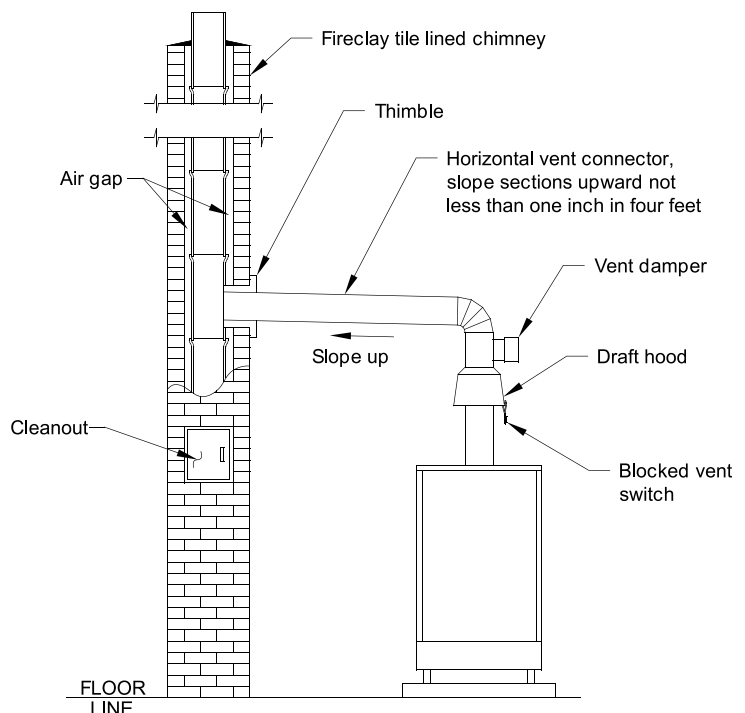

Figure 5-3: Typical Vent System
G. Install Vent Connector from draft hood or vent damper to chimney. See Figure 5-3.